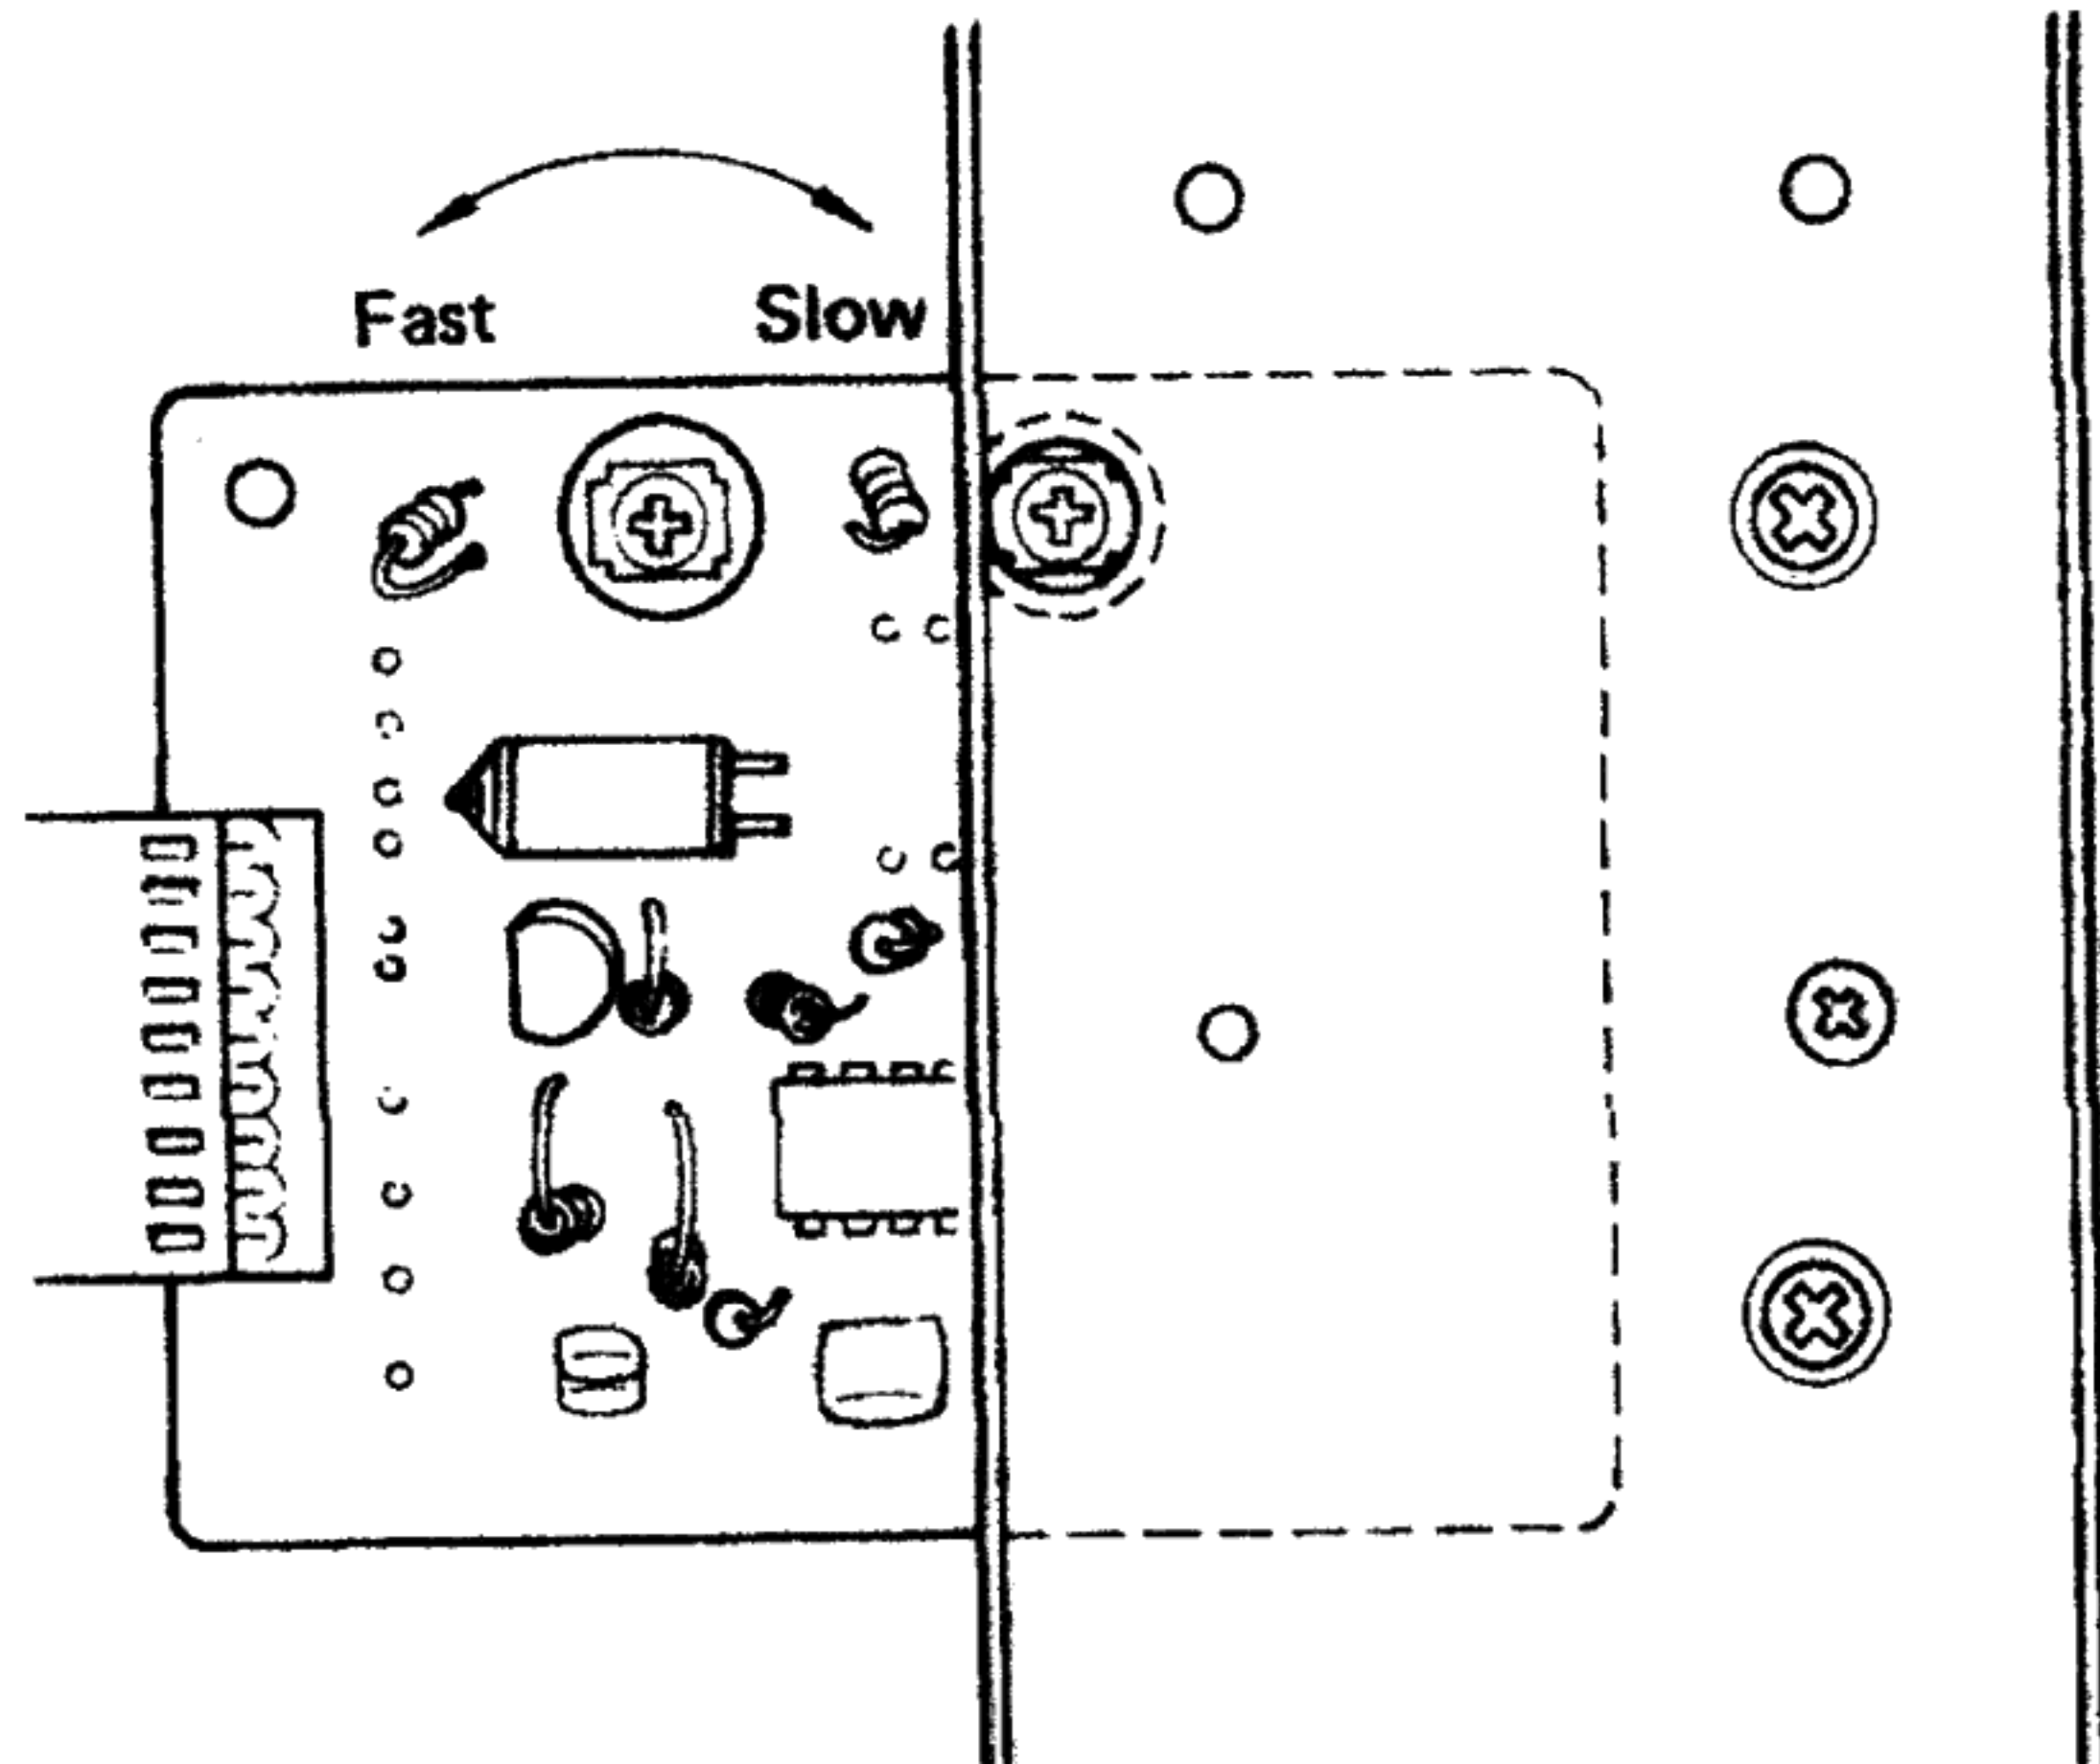

Fig. 4-9
3. Play the middle of the test tape and adjust the HIGH speed trimmer resistor until the frequency counter indicates a reading of 3000 Hz. See Fig. 4-9. (CAUTION: Use an insulated screwdriver to prevent shorting.)